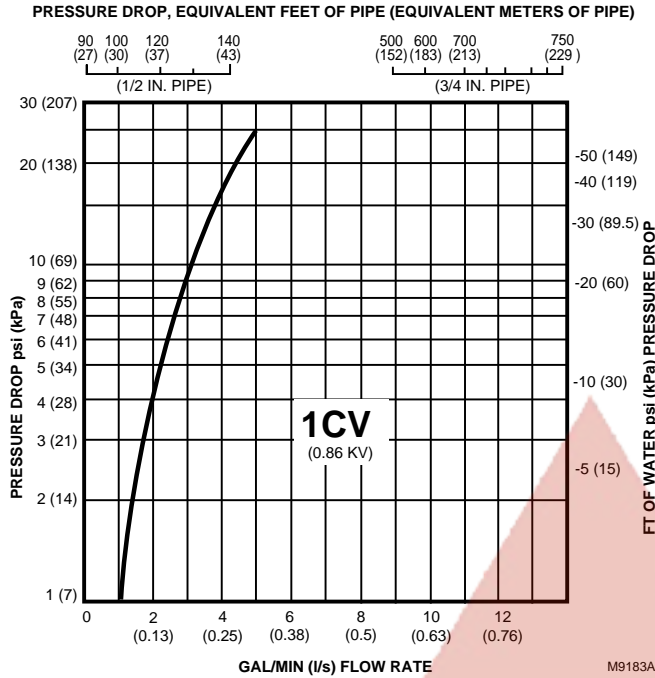

Fig. 3. Flow characteristics of 1 Cv (0.86 kV) flow.
The pressure drop in psi (kPa), equivalent ft (m) of pipe, or feet of water (kPa) can be calculated from Fig. 3 through 8 as follows:
- 3 Select the graph corresponding to the C_v (kV) rating (Fig. 3 through 8).